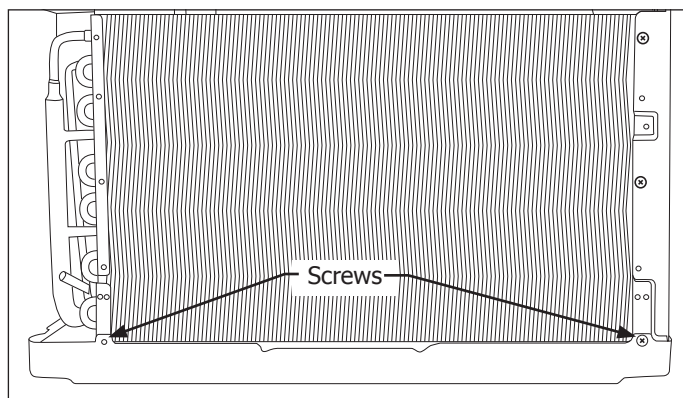

**Figure 4-29.**
6. Extract the two screws securing the bottom of the condenser to the unit base. (See Figure 4-29)